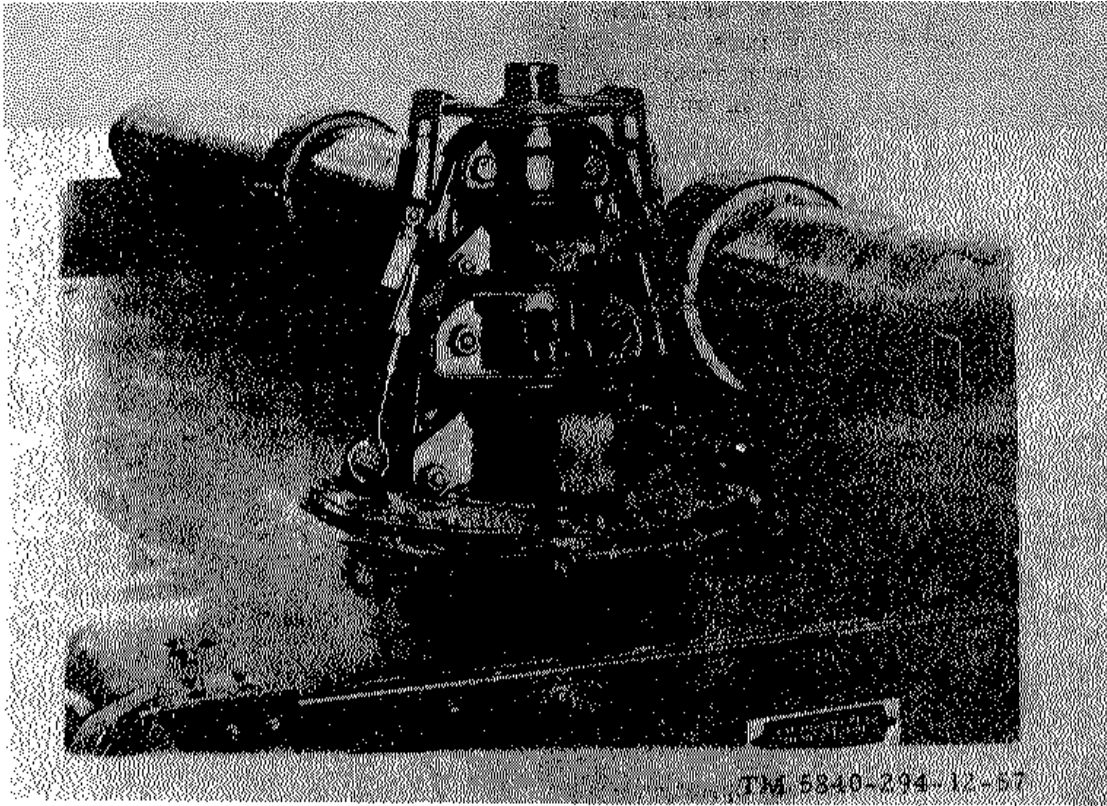

Figure 5-2. Data antenna mast secured for limited-size storage.
- (2) Remove adapter, top section, and sleeve (as a unit) by lifting up. Figure 5-2 shows the data antenna' mast prepared for limited size storage.
- (3) Replace release bolt in mast top section and sleeve and tighten to prevent loss.
- (4) Store adapter, top section, sleeve, and release bolt in storage case.